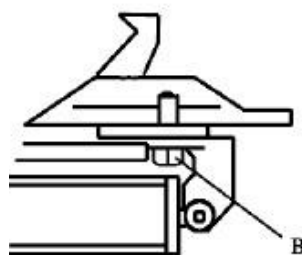

Figure 20
Note: After the first 20 days of use, retighten the jaws with tightening screws (B) on the turntable (figure 20 below).